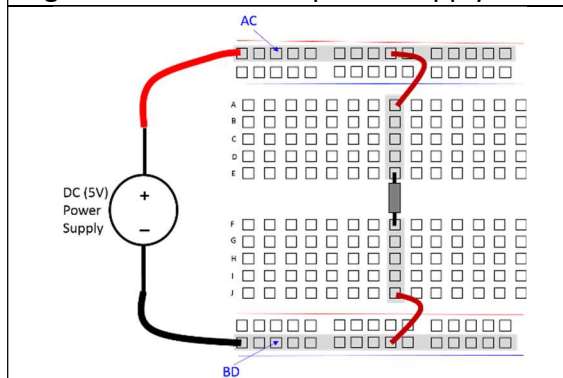

Figure-3.23: Build Figure-3.16 circuit on the breadboard.
3. Connect the groups of holes (nodes) A and C together, and B and D together with wires to form two new nodes AC and BD (Figure-3.23). The formed circuit on the breadboard is the same as the one in Figure-3.16.